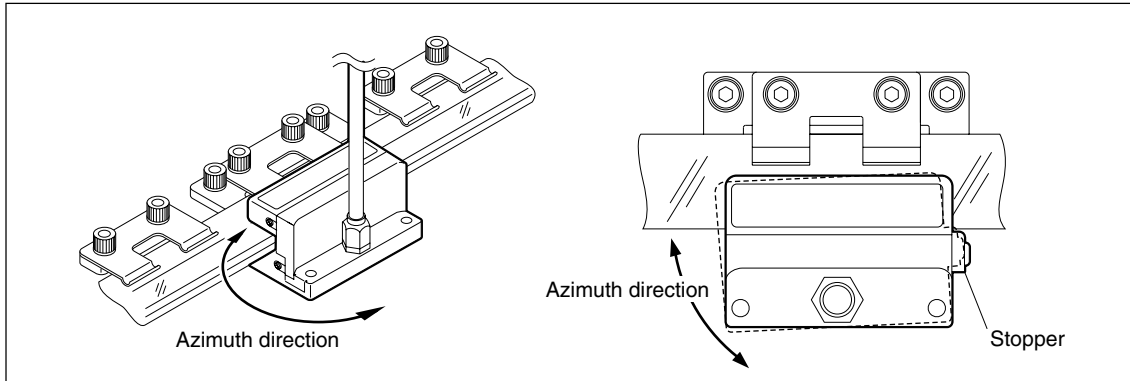

Fig. 3-15
- 2 Rotate the detector head about the stopper in the azimuth direction as shown in Fig. 3-15 to find the location where the Lissajous' figure has the **maximum** amplitude.